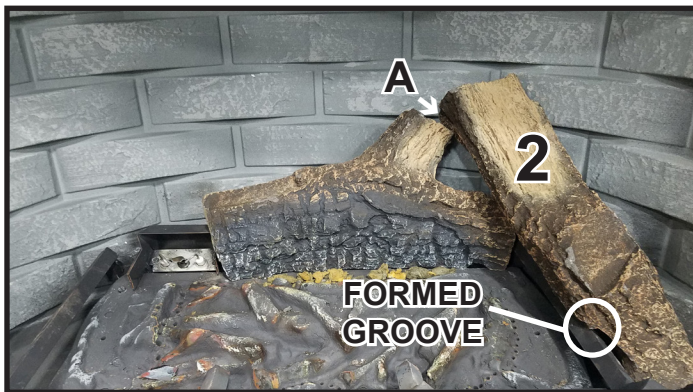

Figure 3
STEP 2. LOG #2 (SRV2106-703): Fit log #2 on the top branch of log #1 (A). Rest the formed groove of the lower part of the log on the grate. It may be necessary to tilt Log #1 forward to properly engage with Log #2. See Figure 3.